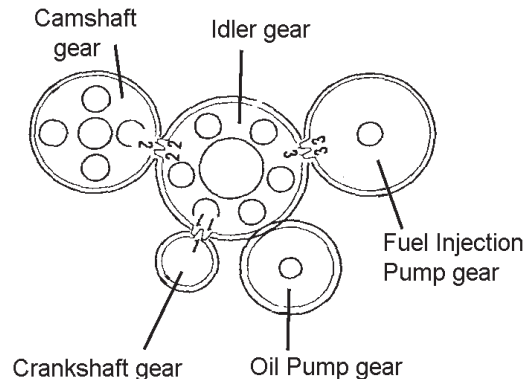

Figure 9: Timing Marks
- a. Install the fuel injection pump after having aligned its gear alignment mark with that of the idler gear alignment mark as shown in Figure 9 above. When the alignment marks of the timing gears align as in the diagram above, the No. 1 piston is top dead center in the compression stroke.